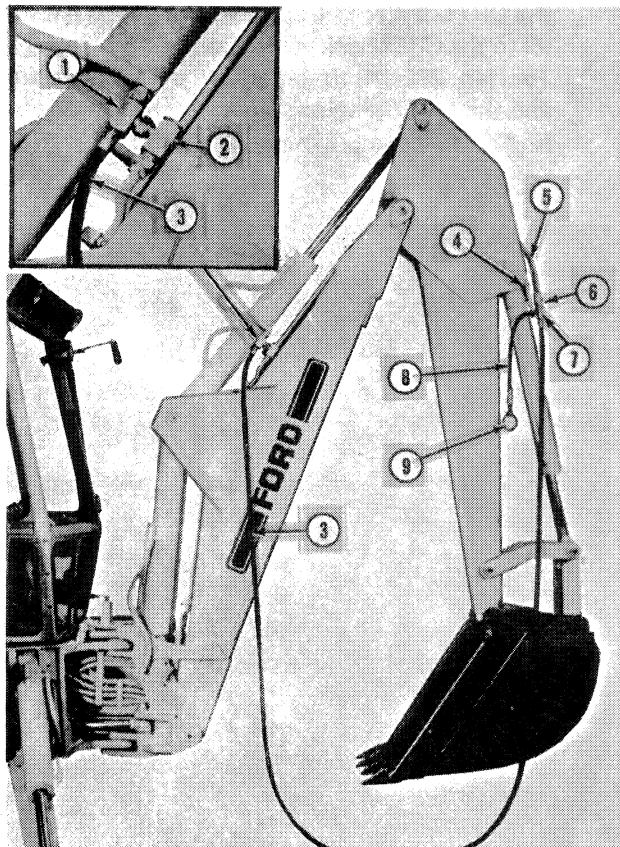

Figure 16
Refer to Figure 16. Warm the hydraulic oil to 165° F. (73.8° C.) by operating the backhoe for approximately 15 minutes before installing the test fittings.
2. Disconnect the rod hose (5), Figure 16, from the bucket cylinder and install a cap (4) on the port on the cylinder. Connect the N1100-HS hose (3)
3. Install a combination set up of a N1100-CR3 (2) and CR4 (1) to the crowd rod port and hose, as shown in the insert, Figure 16.
4. Attach the N1100-HS hose (3) to the CR4 fitting.
5. Install a 5000 psi (344.7 bar) gauge (9), Tool No. D-22, and hose assembly (8), Tool No. D-19-HP to the CR2 fitting as shown.